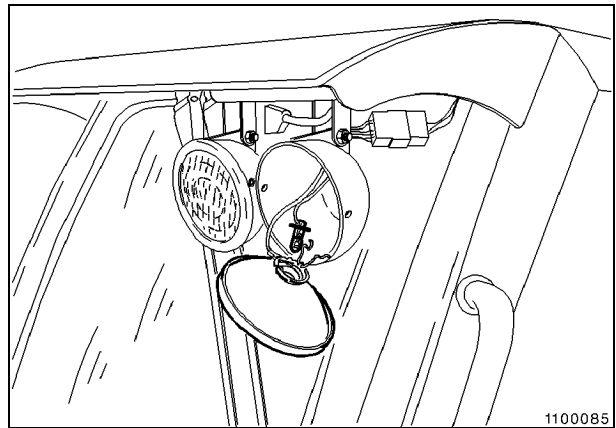

Fig. 9
- Swing lamp retaining clip aside (Fig. 9).